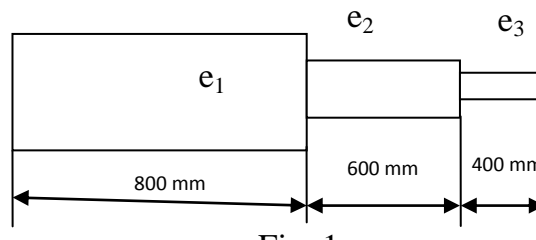

Fig. 1.
- (b) Calculate stiffness matrix for a bar element as shown in Fig.1. It has three elements e_1 , e_2 and e_3 . Area and Young's modulus are $A_1 = 2400 \text{ mm}^2$, $A_2 = 1200 \text{ mm}^2$, $A_3 = 600 \text{ mm}^2$ and $E_1 = 83 \text{ GPa}$, $E_2 = 70 \text{ GPa}$, $E_3 = 200 \text{ GPa}$.